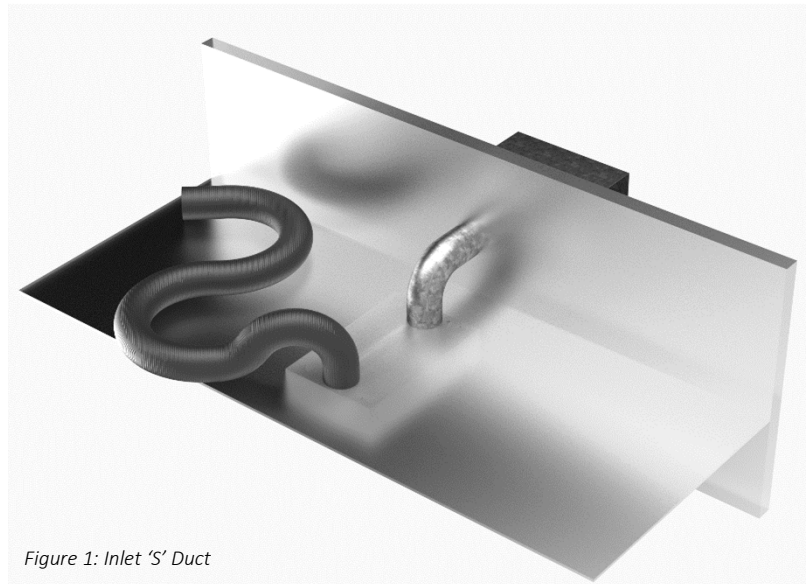

Figure 1: Inlet 'S' Duct
3. From a ceiling space above the enclosure, using a length of insulated duct hose laid in an 'S' configuration to muffle projector noise (figure 1).